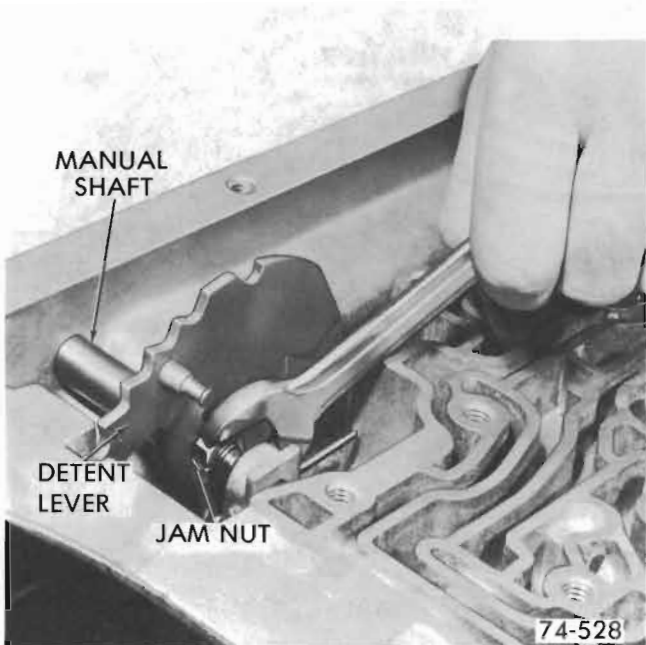

Figure 76-73
a. Unthread jam nut holding detent lever to manual shaft. See Figure 76-73.